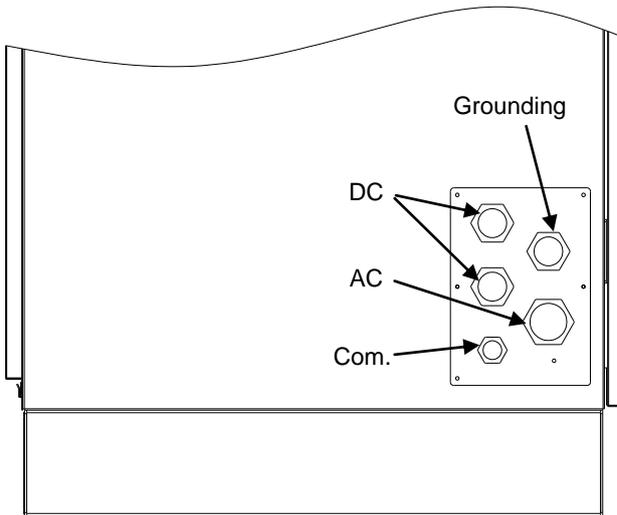

Figure 3-12 Installation of steel connectors
- (c) Install steel connectors on the left side cover and check the seal of the cover, as shown in Figure 3-12;